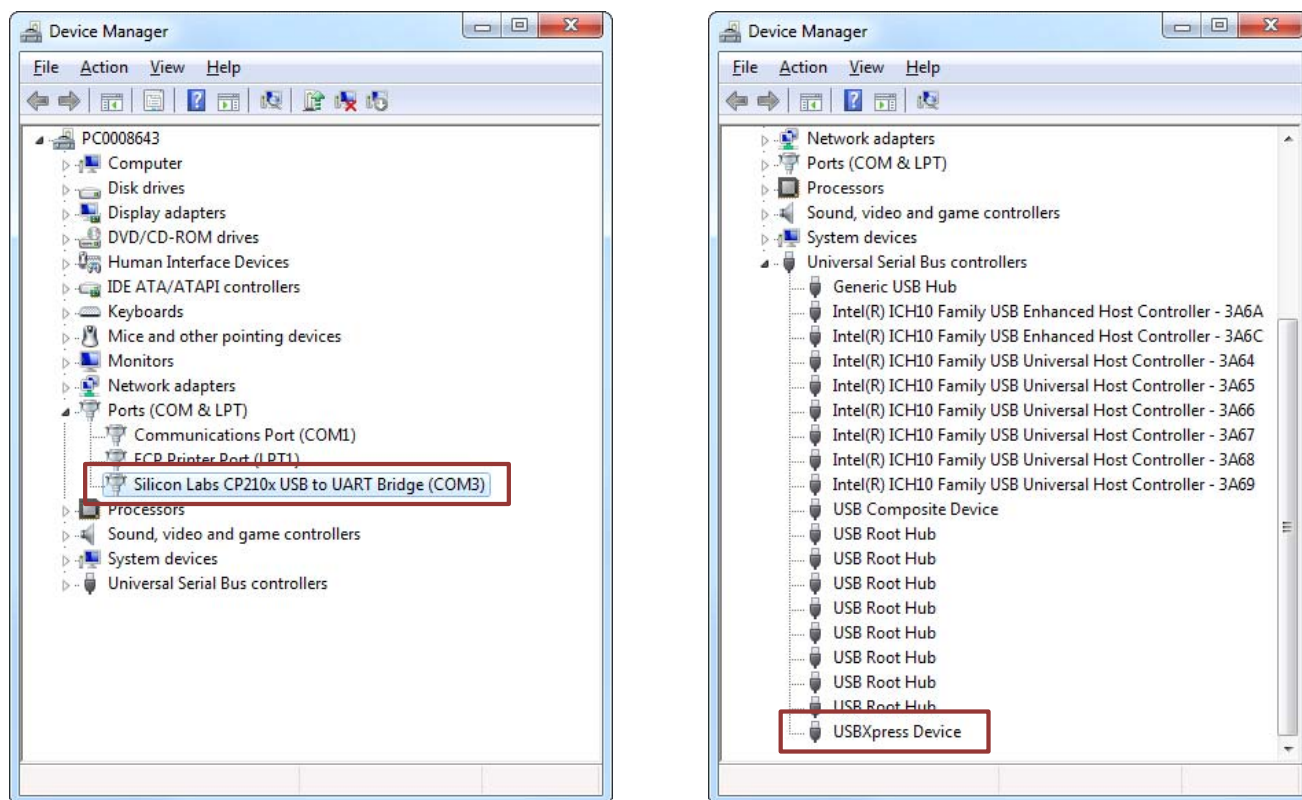
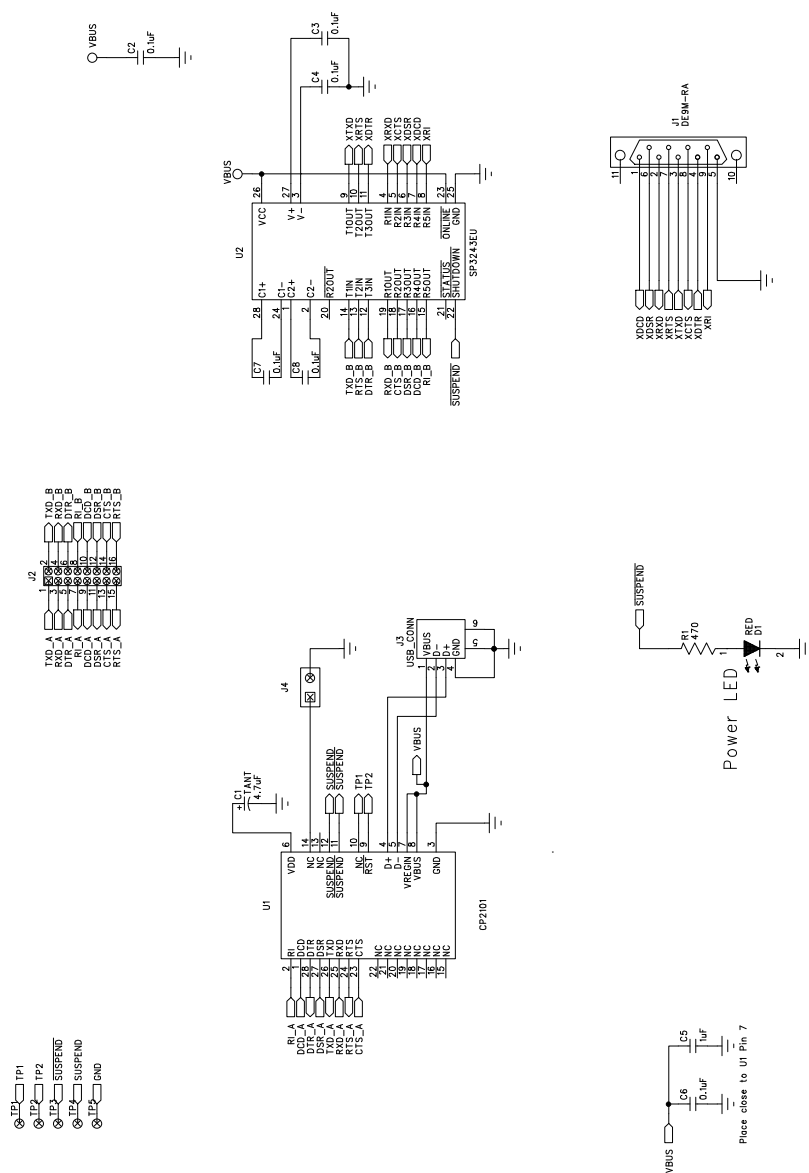

Figure 2. CP2101 in Device Manager
Figure 1. CP2101 Evaluation Board Schematic
If the Virtual COM Port drivers are used, the CP2101 will appear as a COM port in the Device Manager, as shown in Figure 2. The CP2101 will always use the lowest available COM port for operation. For instance, if COM ports 1 and 2 are in use by other peripherals and applications, the CP2101 will use COM 3.
If the USBXpress drivers are used, the CP2101 will appear as a USB USBXpress device as shown in Figure 2. Examples for how to communicate with the device using the USBXpress interface are included in AN169 on the www.silabs.com/interface-appnotes page.
- Updated Figure 1 and Figure 2.